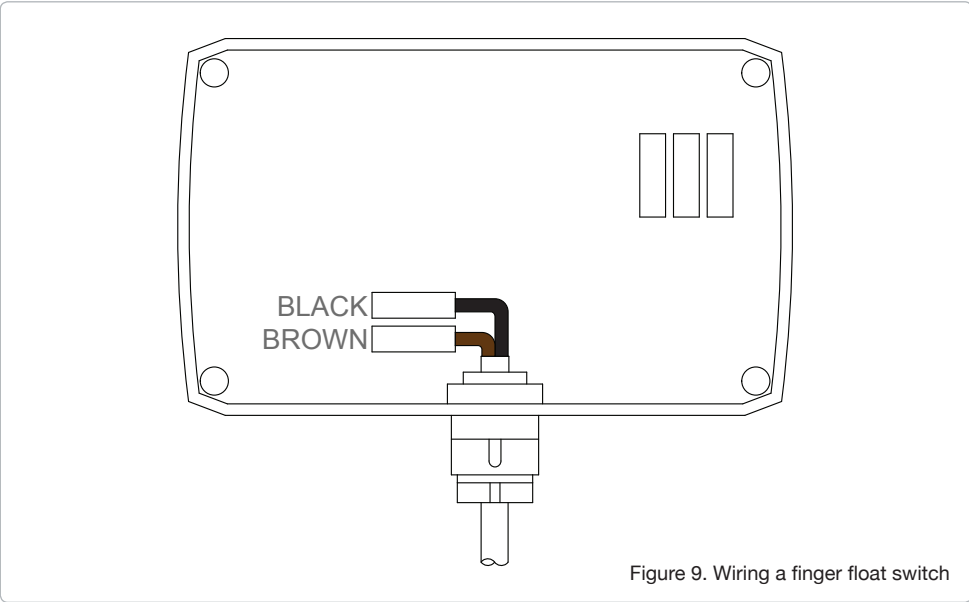
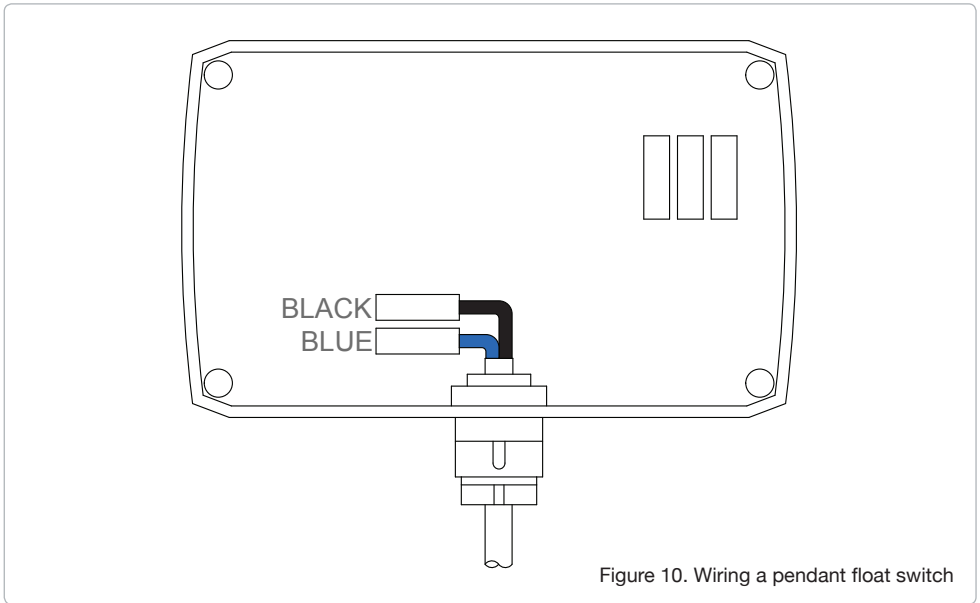

Figure 9. Wiring a finger float switch
Figure 10. Wiring a pendant float switch
- 3. Connect the float switch cable to the terminal strip. When using the finger float (figure 3), connect the blue and a brown cable, (see figure 9). When using the pendant float switch (figure 4), connect the blue and black cable to the alarm box (see figure 10). The BROWN cable should be disregarded and isolated.